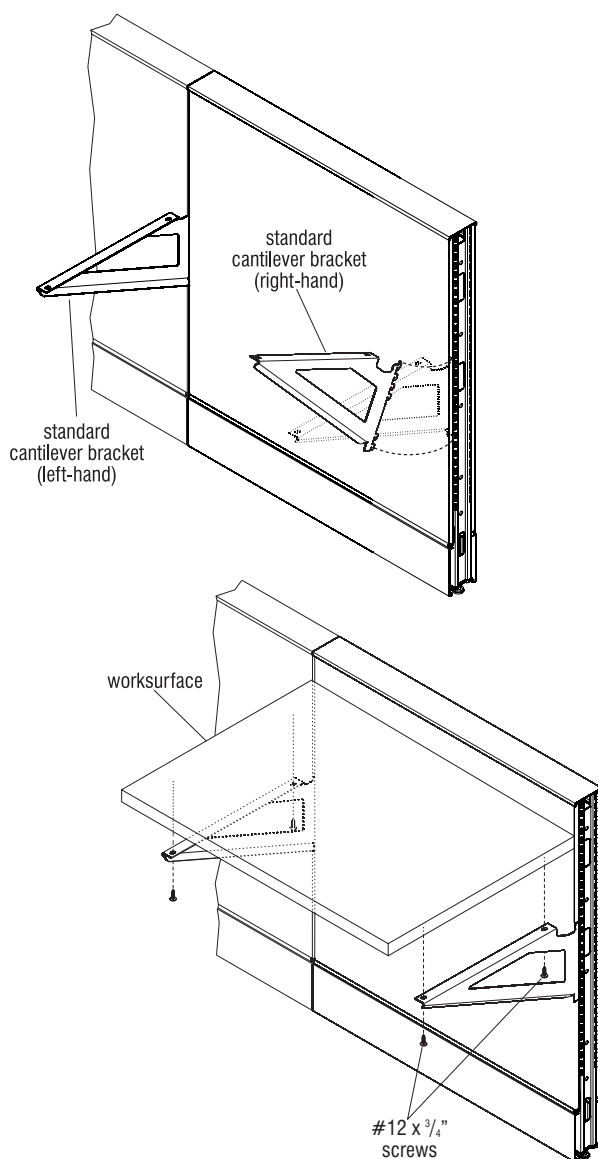

Figure 1 - Standard Cantilever Bracket Installation
1. Locate and identify right- and left-hand cantilever brackets to be used. A right cantilever bracket is used on the right side of a worksurface as you face the panel and the left-handed bracket is at the left. The outer face of an installed cantilever bracket should appear flush with the edge of the panel surface and the mounting flange must face inward (Figure 1).
3. To install bracket, first rotate the front of the bracket up as illustrated and insert the top, anti-dislodge tooth into the panel module slotting at the appropriate height. Push up when the top tooth is engaged, then rotate the bottom of the bracket down, engaging all remaining bracket teeth into the slotting. Ensure that all teeth are inserted firmly, then press bracket down to fully engage all teeth. If necessary, use a rubber mallet to gently tap the top of the bracket to firmly seat the teeth. Repeat the steps above for the second cantilever bracket to be installed (Figure 1).
4. Carefully place worksurface onto installed cantilever brackets and align mounting holes of brackets to pre-drilled holes in underside of worksurface. Secure using two $\#12 \times \frac{3}{4}"$ screws per bracket. Take care to not over-tighten the screws (Figures 1 & 2).
1. Install standard cantilever brackets to Unite panels as outlined in steps 1-4 (previous page) (Figure 1).
2. Where two worksurfaces will meet on cantilever brackets, set a 22" splice plate onto the left- and right-hand cantilever bracket pair between panels. Align the support bracket mounting holes over the cantilever bracket mounting holes, then carefully place each worksurface onto cantilever brackets and align mounting holes of brackets to pre-drilled holes in underside of worksurface. Secure using two #12 x 3/4" screws per bracket. Take care to not over-tighten the screws (Figures 1 & 2).
1. Install standard cantilever brackets to Unite panels as outlined in steps 1-4 (page 3) to the locations outlined in your space-planning layout (Figure 1).